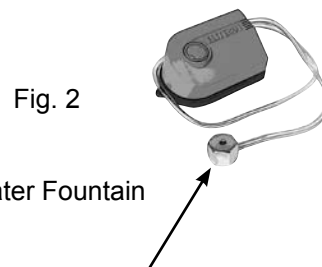

Fig. 2
- A gravity feed water system (Fig. 1) or an under wheel water spitter with pump (Fig. 2) should be used to supply water to the wheels during operation.